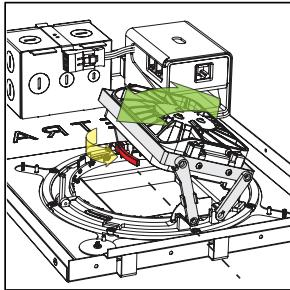

fig. 14
- b. Unlock the emitter chassis: reach into the D3's housing and unlock tilt lock and rotation lock levers (both colored red) (see fig. 14).